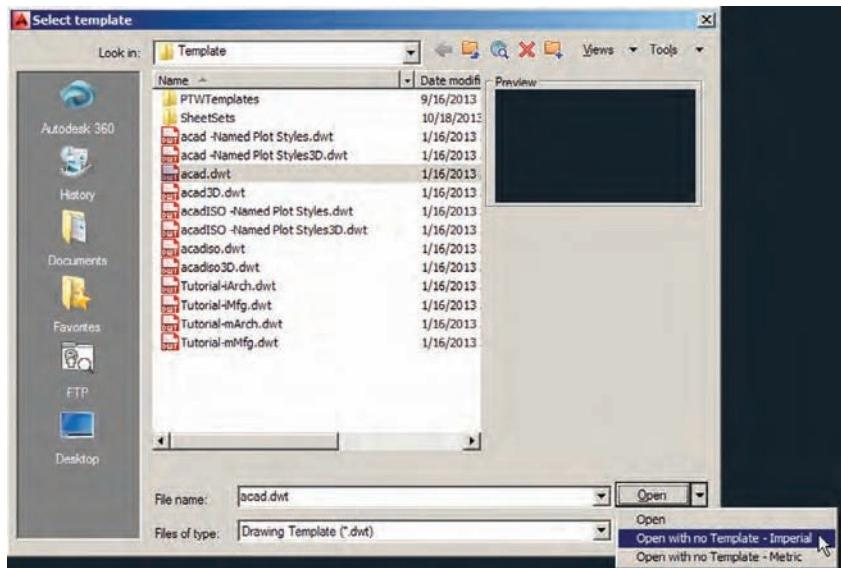

FIGURE 14.5 Creating a new drawing without using a template
3. Click the New button on the Quick Access toolbar. Click the arrow button adjacent to the Open button in the Select Template dialog box that appears. Choose Open With No Template – Imperial from the drop-down menu (see Figure 14.5).